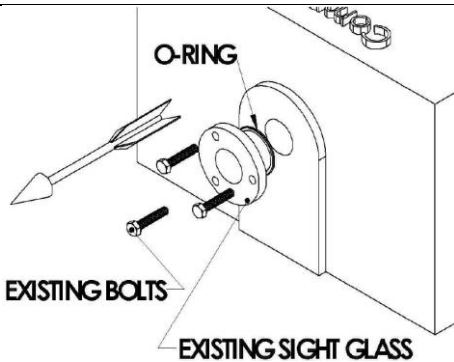

Figure 1: Remove Sight Glass
2. Remove oil sight glass, O-ring, and bolts from compressor (note warning number 3). Retain sight glass and bolts for re-assembly. Discard the used O-ring. The removed sight glass will be fitted to the second flanged port on the regulator (see Figure 1).